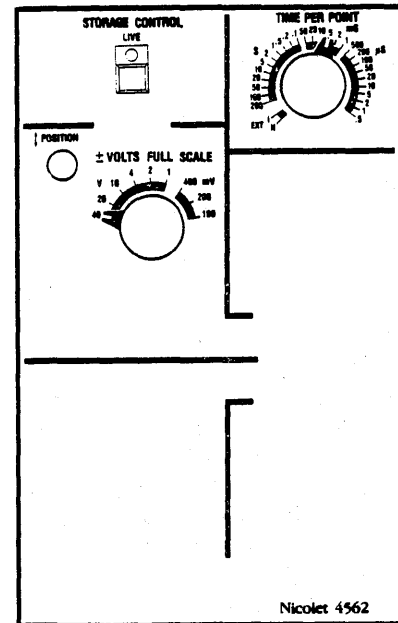

Figure 6-13
- #3. Adjust the \pm VOLTS FULL SCALE switch (Figure 6-13) until the waveform's amplitude is as large as possible without exceeding the screen's vertical limits.
- #5. Place the TIME PER POINT switch to the extreme clockwise (.5 μ S) position while observing the display (Figure 6-13).
- #6. Move the TIME PER POINT switch (Figure 6-13) one step at a time in the counterclockwise direction.